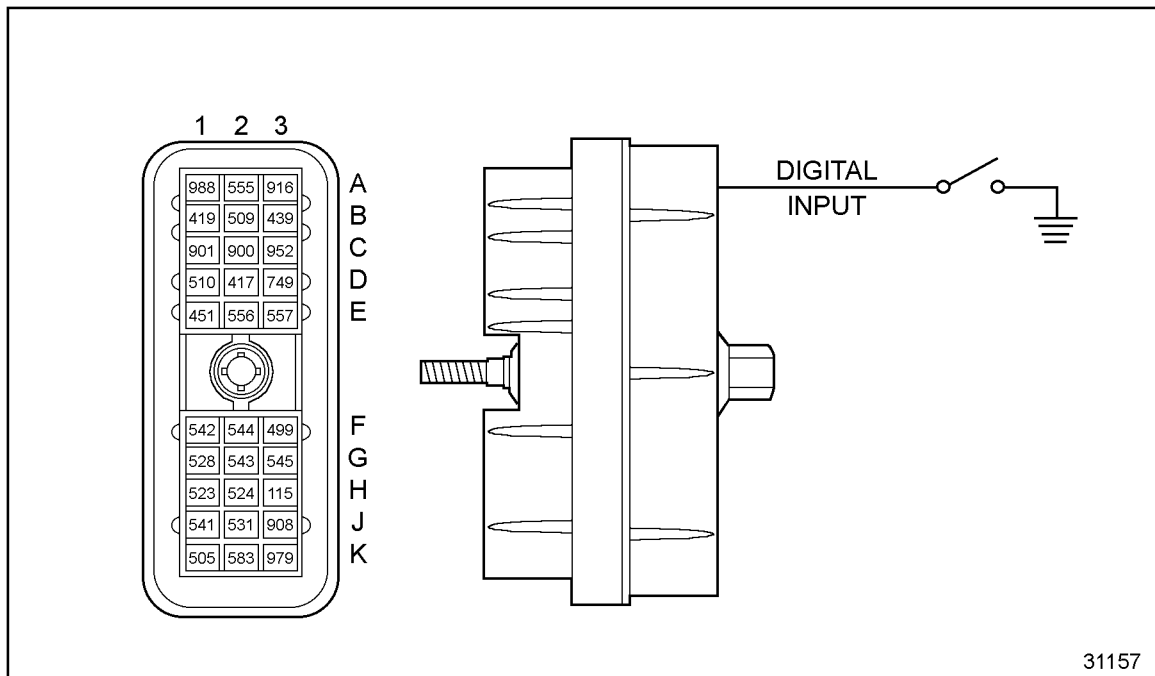

Figure 10-9 ECM Vehicle Harness Connector
5. Observe the status when the feature is active (or supposed to be active). See Figure 10-9.